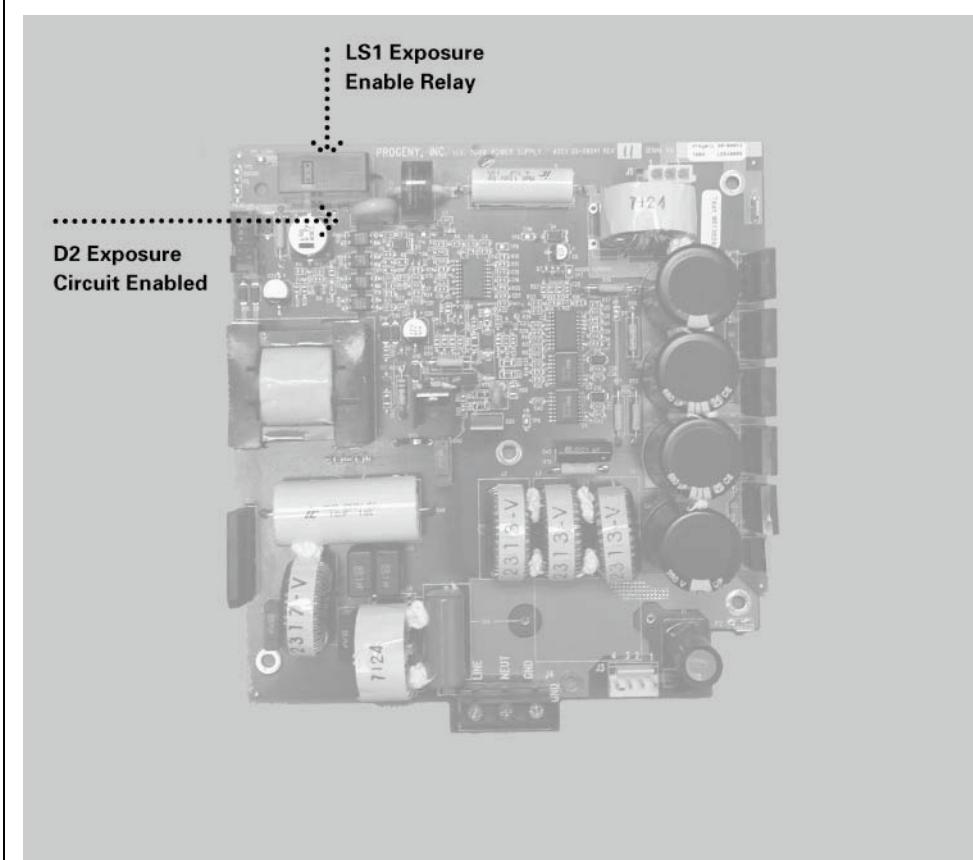

Figure 57
2. If the Operator Display indicator sounds, but the Logic Board indicator does not activate, observe LED D2 on the Power Supply Board, and listen for the relay LS1 to activate on this same board (Figure 57). LED D2 should illuminate during the exposure request. If not, inspect the condition of the ribbon cable between the Power Supply and the Logic Boards. If the ribbon cable is acceptable, replace the Logic Board.